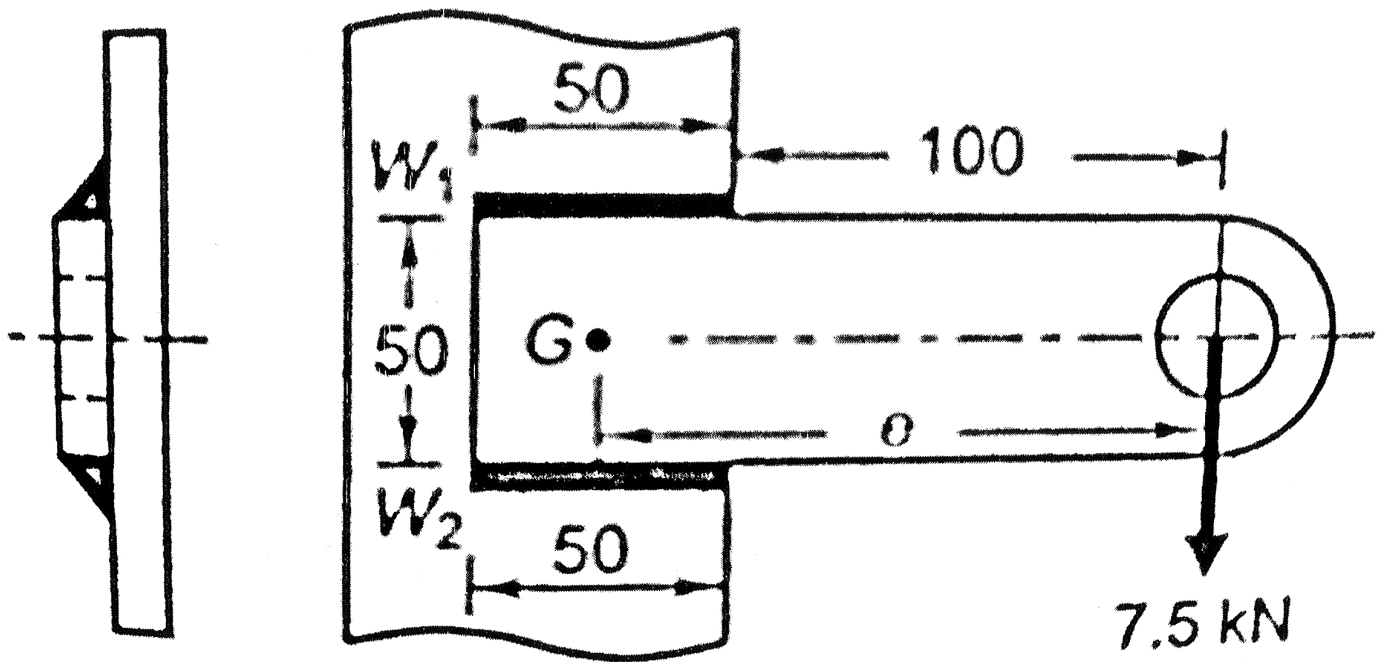

Fig. 5
6. A welded connection, as shown in Fig. 5 is subjected to an eccentric force of 7.5 kN. Determine the size of welds if the permissible shear stress for the weld is 100 N/mm². Assume static conditions. (20)